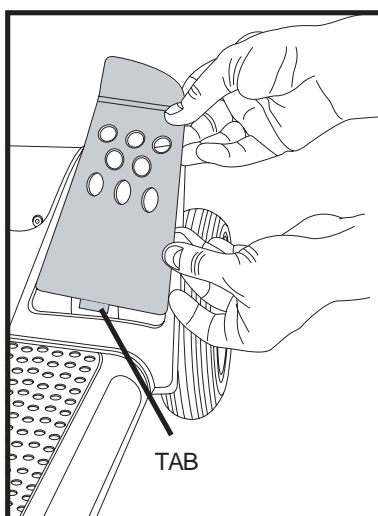

Figure 10. Front Fender Panel
2. Push through the hole to separate the piece from the Travel Scooter. See figures 10, 11 and 12.
NOTE: When installing the front fender panel, make sure the tab at the bottom of the panel is inserted into the tab opening before securing the panel. See figure 10.